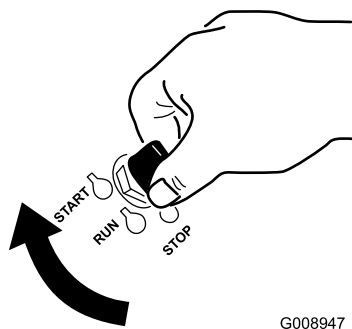

Figure 14
1. Turn the ignition key to the Start position (Figure 14).